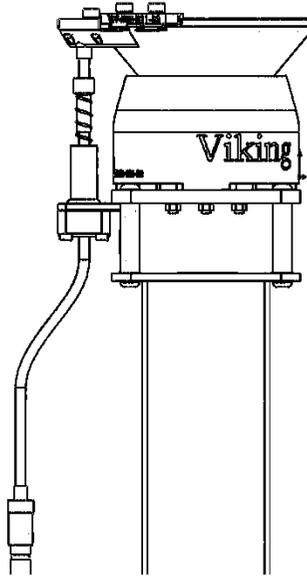

Figure 1 - Primer Tube Offset
- When installing the VPF, ensure that there is a slight misalignment between the primer infeed on the press, and the primer outfeed of the VPF (see figure 1). This will allow the flexible tube to easily detach in the case of a detonation at the press.